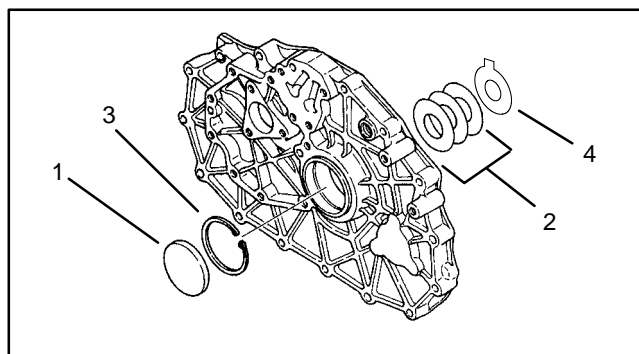

Figure 36
IMPORTANT: The center plate has one (1) tabbed shim (item 4) with three (3) tabless shims (item 2) (Fig. 36).
6. Loosen cap screws and separate center plate from transaxle case. Note dowel pin locations in transaxle case. Remove seal cap (item 1), shims (items 2 and 4) and snap ring (item 3) from center plate.